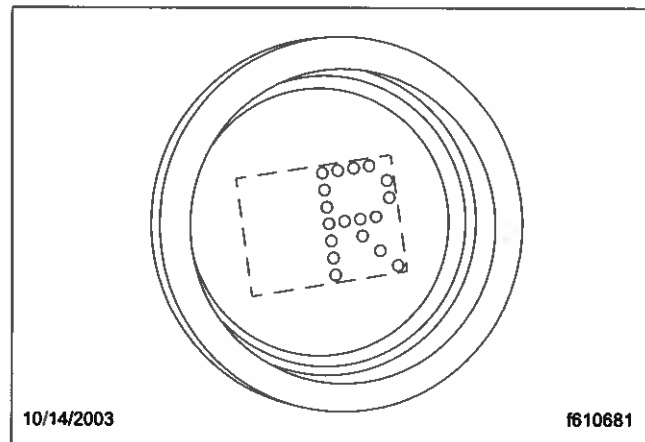

Fig. 8.10, Reverse Gear Display
Reverse (R) is at the upper end of the four-position selector switch located at the end of the SmartShift control lever. To select R, press in the neutral lock button and move the selector switch upward to the position above neutral. When reverse is selected, the letter "R" displays on the current gear indicator. See Fig. 8.10.